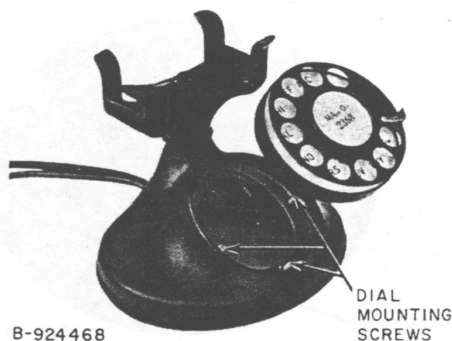

Fig. 4—Assembly of Dial on D-Type Handset Mounting
**2.04** The D-type handset mounting may be equipped with a 4-, 5-, or 6-type dial (Fig. 4). The dust cover must be removed from the 6-type dial when used with the D-type handset mounting.